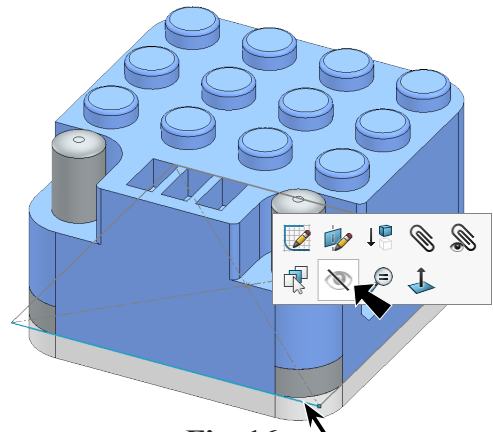

Fig. 16
Step 5. **Hide Sketch1**. To hide, click **Sketch1** in the graphics area and **Hide** on the context toolbar, **Fig. 16**.